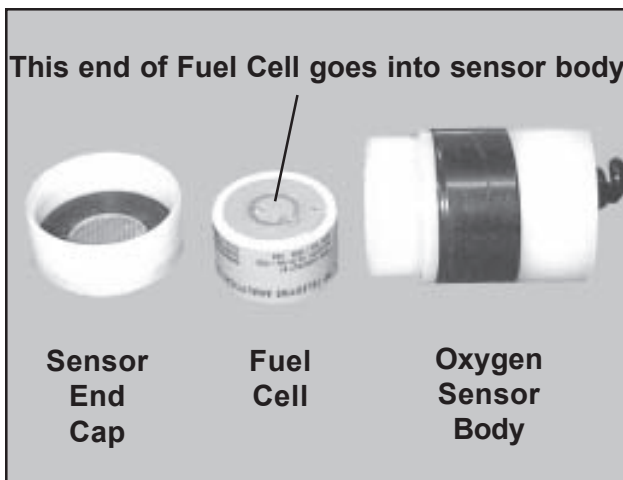

Figure 38. Fuel Cell and Oxygen Sensor Assembly
2. Unscrew the end cap from the oxygen sensor (Figure 38).
5. Gently, screw the sensor end cap (Figure 38) back on. Be careful, the threads are very fine and are easily damaged.
2. With the oxygen sensor in place in the partition wall, unscrew the end cap from the oxygen sensor (Figure 38).